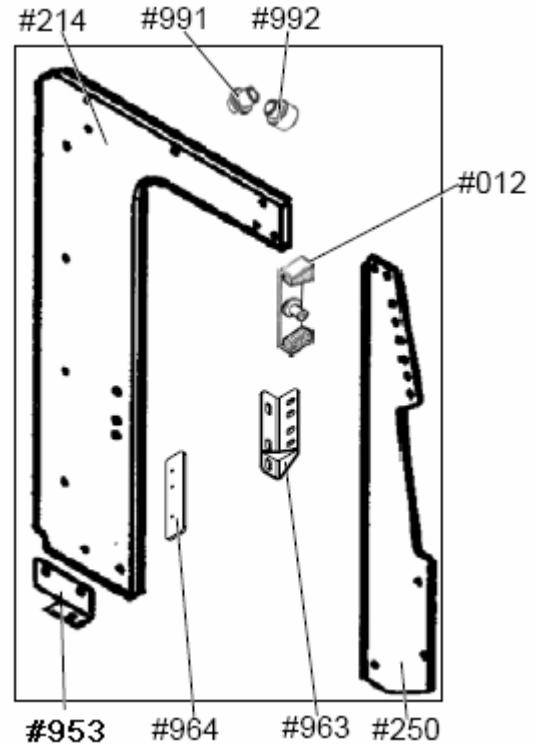

Figure 5-22. LH Kit Installation – Parts.
Parts (see Figure 5-22)
1. Installation of the Left Hand side armor is the same as the Right Hand armor. Repeat the procedures in Section 5.5. Refer to Figures 5-22, 5-23, 5-24 and 5-25.